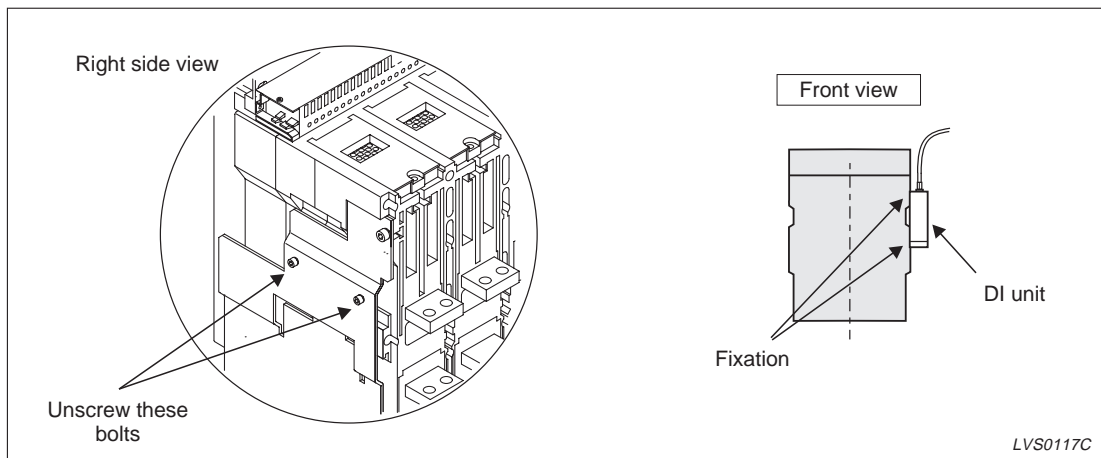

Fig. 4-57: DI unit mounting on the breaker (fixed type)
- ① Remove the hexagonal screws on the the right side frame (refer to fig. 4-57).
- ② Mount the DI unit on the right side frame by tightening the M6 bolts and spring washers (tightening torque: 2.9–3.8 Nm).